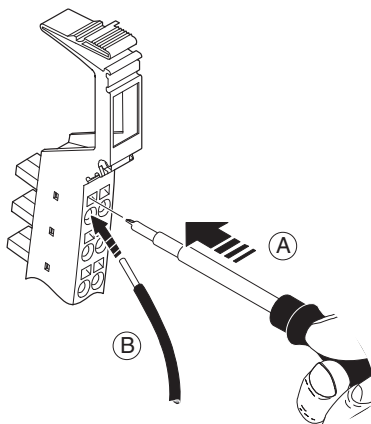

Figure A-1 Connecting unshielded cables
- Push a screwdriver into the actuation shaft of the appropriate terminal point (Figure A-1, A) so that you can insert the wire into the spring opening. Phoenix Contact recommends the SFZ 1-0,6x3,5 screwdriver (Order No. 1204517).
- Insert the wire (Figure A-1, B). Remove the screwdriver from the opening. This clamps the wire.